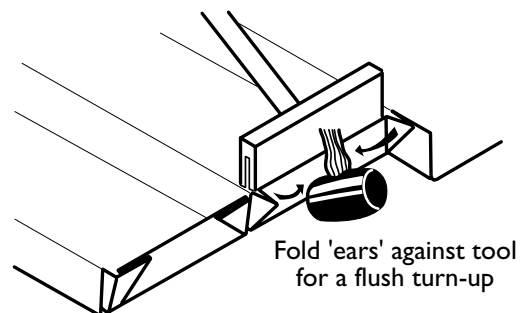

Figure 8
- Hold the tool hard against the end of the tray and push the handle to form a turn-down about 20 degrees (Figure 8).